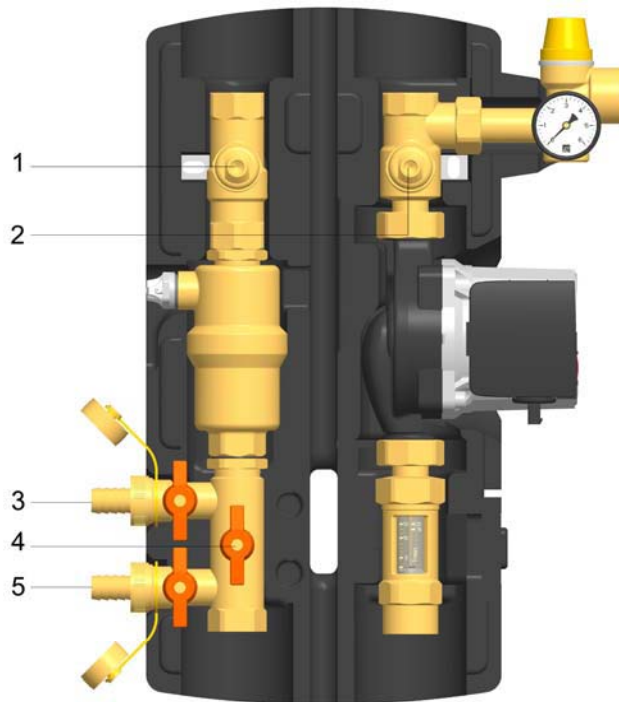

Fig. 1: Integrated flushing and filling unit
If the flushing and filling unit is integrated in the solar station (see fig. 1) and if you are commissioning the storage tank for the first time, we recommend an additional fill and drain ball valve in the return at the lowest point of the solar thermal system, to flush possible scale out of the storage tank. The flushing and filling station must have a filter that prevents the flushed-out scale from re-entering the solar circuit. This flushing process is described in “5.2 Flushing the storage tank for initial commissioning”. Then continue as described in “5.3 Flushing and filling the solar thermal system”.
2. Connect the pressure hose of a flushing and filling station to the fill ball valve of the flushing and filling unit (5, see figures 1 and 2).
3. Connect the flushing hose of a flushing and filling station to the drain ball valve of the flushing and filling unit (3).
4. Close the ball valve in the center of the flushing and filling unit (4).
8. During flushing, bleed the solar thermal system several times at the Air vent (6) until the discharged solar fluid is free of air bubbles.
9. Close the drain ball valve (3) of the flushing and filling unit with the filling pump running and increase the system pressure to approx. 70 psi (5 bars). The system pressure can be read from the gauge.
10. Close the fill ball valve (5) and switch off the pump of the flushing and filling station.
1. Open the check valves in the ball valves in flow and return (1 and 2, see. fig. 1) by turning the ball valves to a 45° position with an open-ended 14mm wrench.